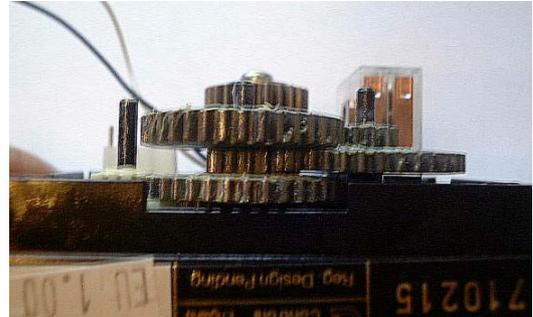

Figure 7:
- ii. When fitting the gears ensure that they are all engaged with each other (see Figure 7).